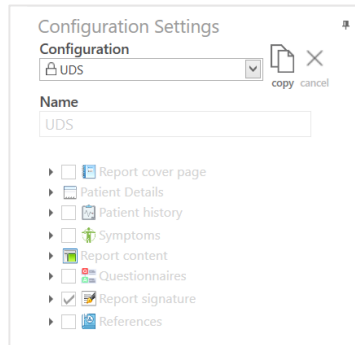

Figure 54: Configuration Settings – Editing the Report
2. Press the copy button located beside the **Configuration** title (Figure 54). If desired, change the title of the new report configuration under the **Name** category.